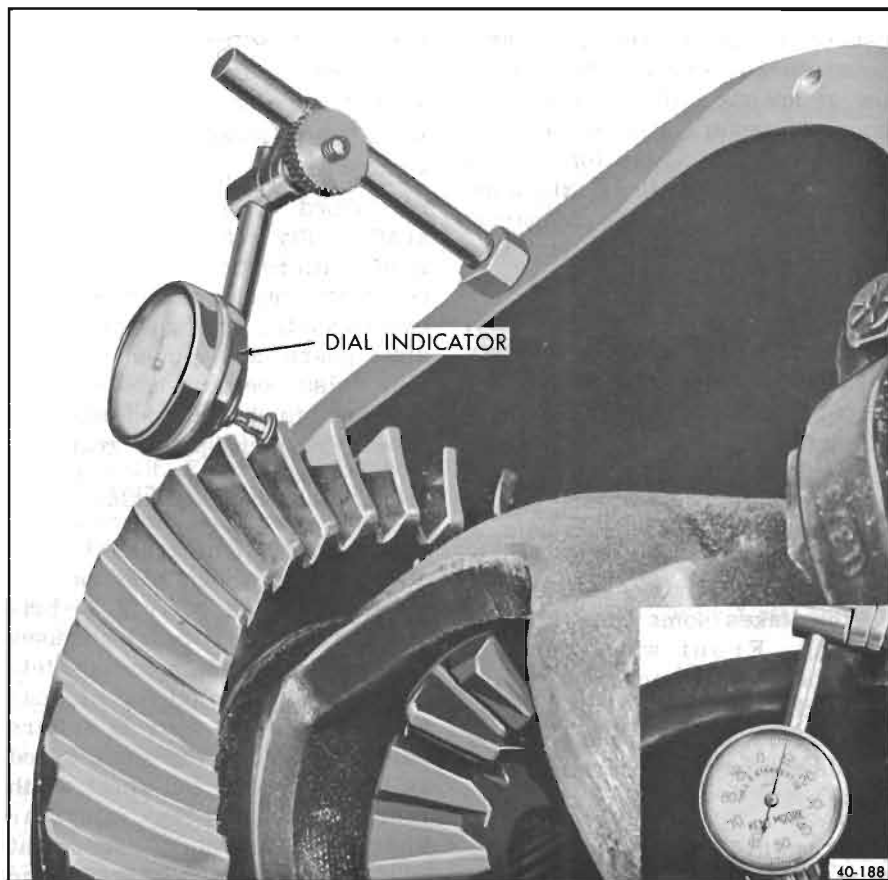

Figure 40-188—Checking Ring Gear To Pinion Backlash
1. Mount dial indicator as shown in Figure 40-188. Use a small button on indicator stem so that contact can be made near heel end of tooth. Set dial indicator so that stem is as nearly as possible in line with gear rotation and perpendicular to tooth angle for accurate backlash reading.